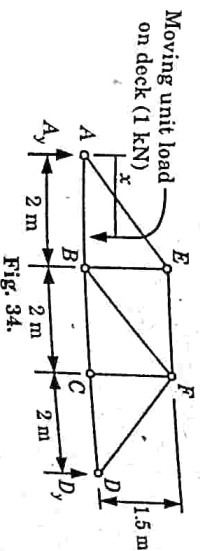

Fig. 34.
- b. Assume a unit point load is rolling along the bridge deck from points A to D in a simple truss as shown in Fig. 34. The distance X is the distance of the moving load from point A. Construct the influence line diagram for the three members EF, BF and BC.
Given : Truss shown in Fig. 34.